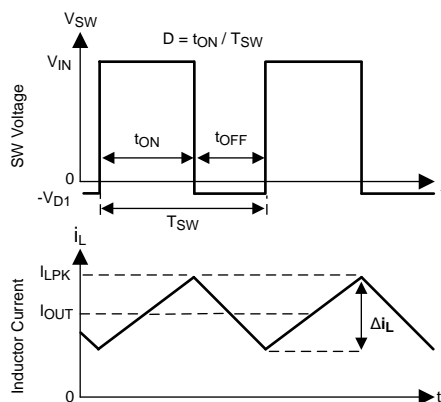

Figure 33. SW Node and Inductor Current Waveforms in Continuous Conduction Mode (CCM)
The following operating description of the LM43601-Q1 refers to the Functional Block Diagram and to the waveforms in Figure 33. The LM43601-Q1 is a step-down buck regulator with both high-side (HS) switch and low-side (LS) switch (synchronous rectifier) integrated. The LM43601-Q1 supplies a regulated output voltage by turning on the HS and LS NMOS switches with controlled ON time. During the HS switch ON-time, the SW pin voltage V_{SW} swings up to approximately V_{IN} , and the inductor current i_L increases with a linear slope $(V_{IN} - V_{OUT}) / L$. When the HS switch is turned off by the control logic, the LS switch is turned on after a anti-shoot-through dead time. Inductor current discharges through the LS switch with a slope of $-V_{OUT} / L$. The control parameter of Buck converters are defined as duty cycle $D = t_{ON} / T_{SW}$, where t_{ON} is the HS switch ON time and T_{SW} is the switching period. The regulator control loop maintains a constant output voltage by adjusting the duty cycle D . In an ideal Buck converter, where losses are ignored, D is proportional to the output voltage and inversely proportional to the input voltage: $D = V_{OUT} / V_{IN}$.